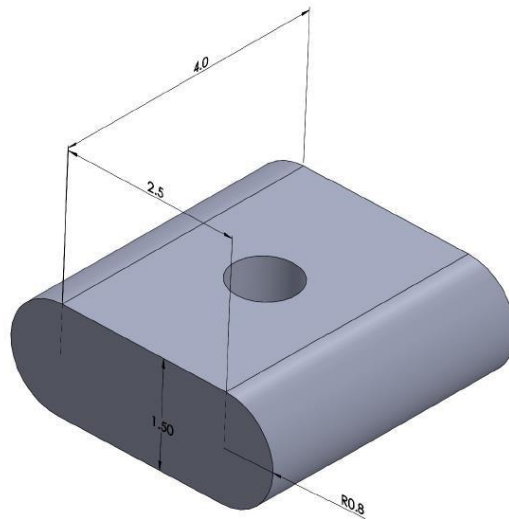

Figure 9. Loading Block Dimensions
- 5.3.2. Loading Block. Block dimensions are 4 inches by 4.1 inches by 1.5 inches (L x W x H), as shown in Figure 9.